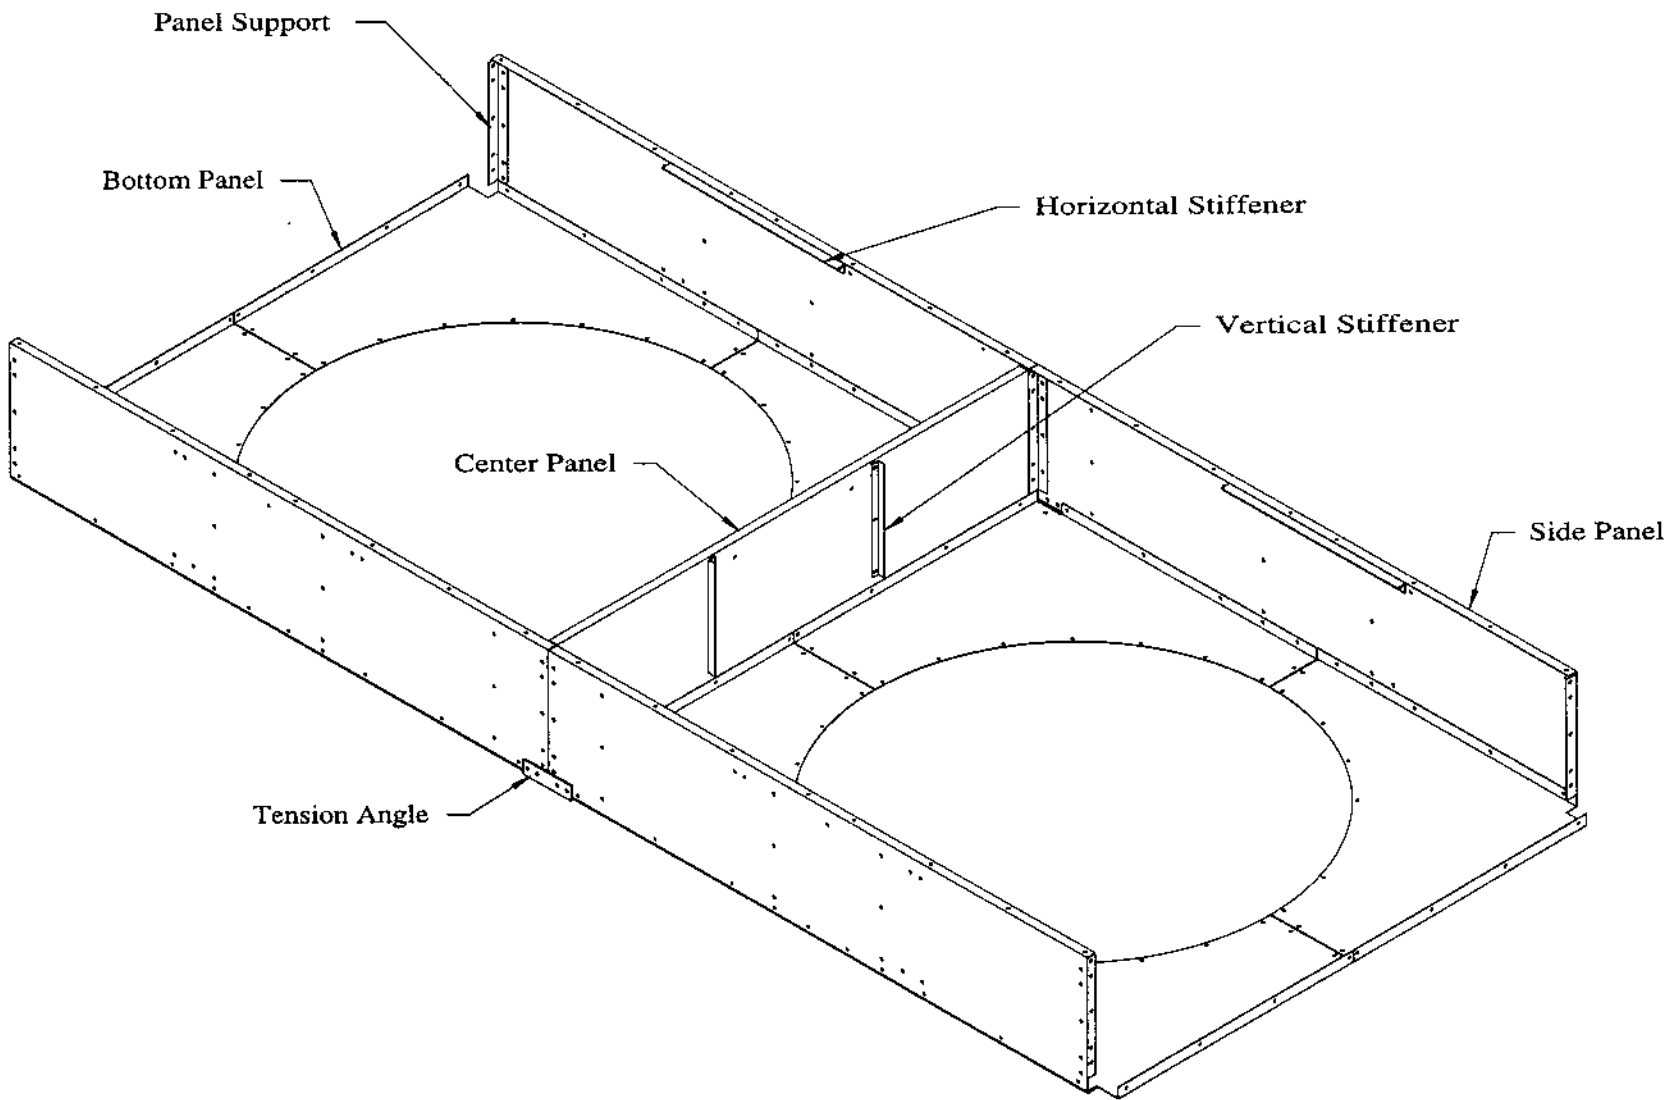

FIG. B1 - BOTTOM, CENTER, AND SIDE PANELS
1. Set all bottom panels on a level surface. Install vertical stiffeners, panel supports, and horizontal stiffeners, if required, to side, end, and center panels. Attach side panels, center panels, and tension angles, if required, to bottom panels. Tighten all bolts. See Fig. B1.